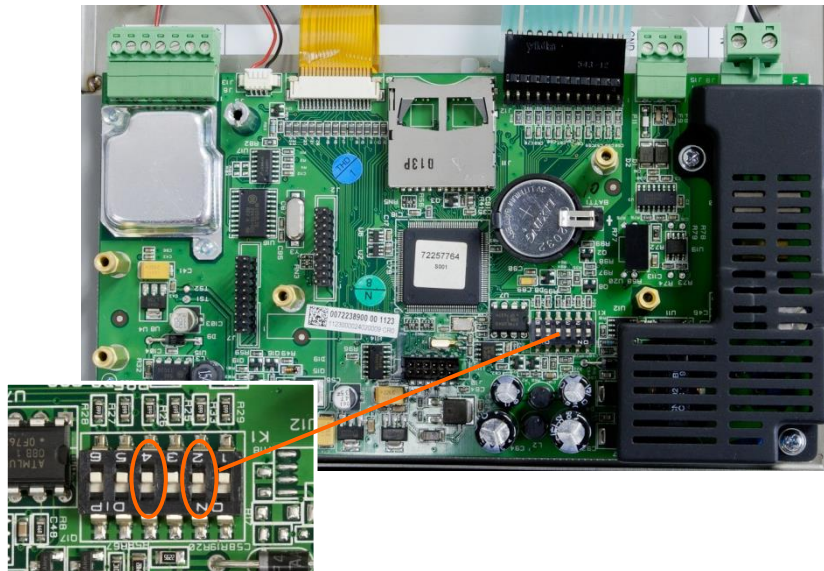

Figure 5-8: Switches SW1-2 and SW1-4.
2. Place switch SW1-2 in the ON position, as shown in Figure 5-8.
3. The position of SW1-4 (also shown in Figure 5-8) determines whether metrologically significant EEPROM data for scale calibration is reset when a master reset is performed. SW1-4 must be set to ON to reset EEPROM data. If SW1-4 is set to OFF, metrological EEPROM data will not be affected by the master reset and the original calibration will persist.